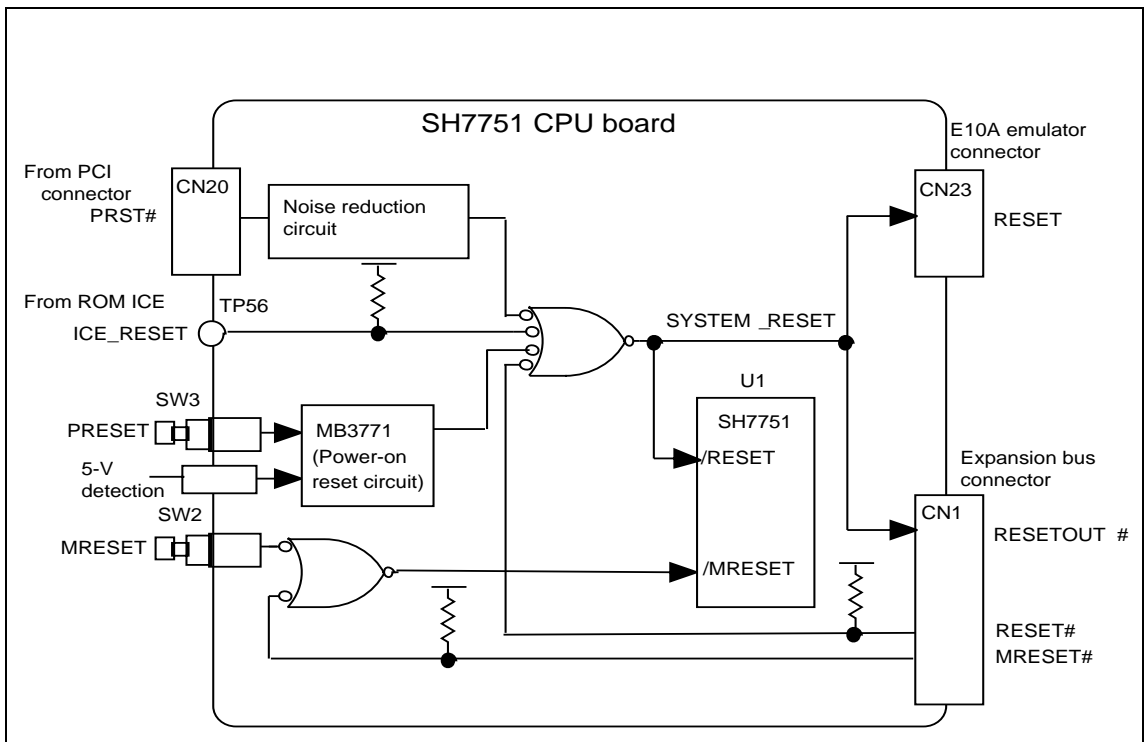

Figure 5.14 Reset Signal Lines
- (1) INTA to INTD: The signals are connected to the IRL2 of the CPU through the logic on the CPU board. For details, refer to section 5.5, On-Board Registers.
- (2) 64bit bus signals: NC on the CPU board. If necessary, deal with those signals appropriately on the expansion board. Note that ACK64# and REQ64# are pulled up on the CPU board.
- (3) Signals for slots 6 to 8: Pulled up. No board can be connected to these slots.
- (4) Signals for hot swapping: Pulled up. These pins do not work.
- (5) PRST#: ORed with the related logic on the CPU board, then input to the CPU. Refer to figure 5.14.
- (6) INTP# and INTS#: NC on the CPU board. If necessary, deal with those signals appropriately on the expansion board.
- (7) V(I/O): The CPU board does not use this signal. Note that a decoupling capacitor is inserted between this pin and GND.